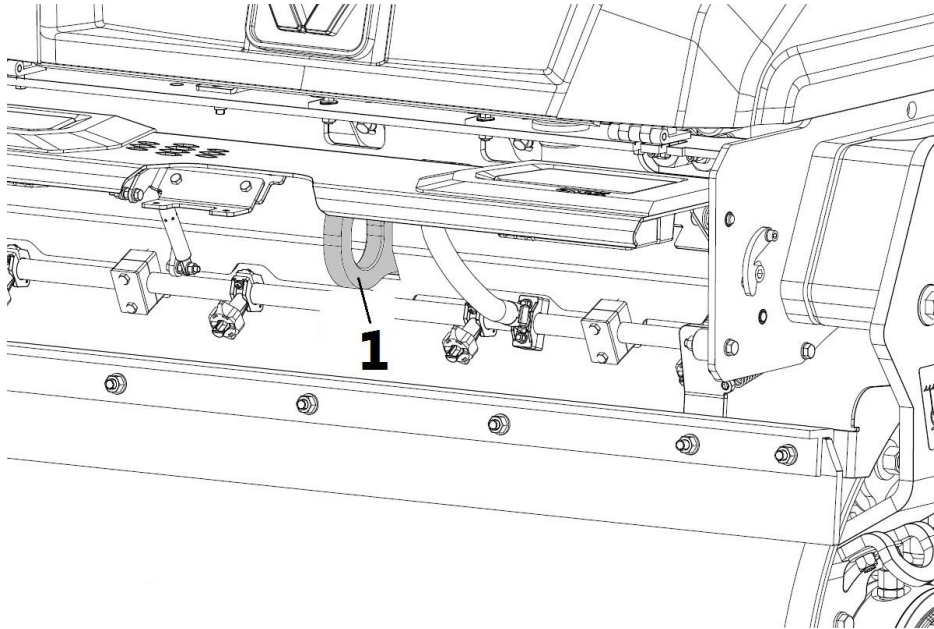

Fig. 6-11: Traction Ring (1)
1. Open the front or rear cover plate of machine and use the traction ring for towing (see Fig. 6-11);